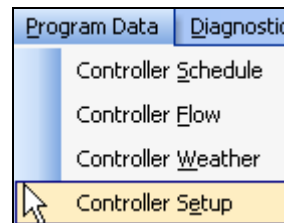

Figure 16.5.1A
1. In the toolbar at the top of the screen click on **Program Data** then scroll down to the words **Controller Setup** and click on it (Figure 16.5.1A).